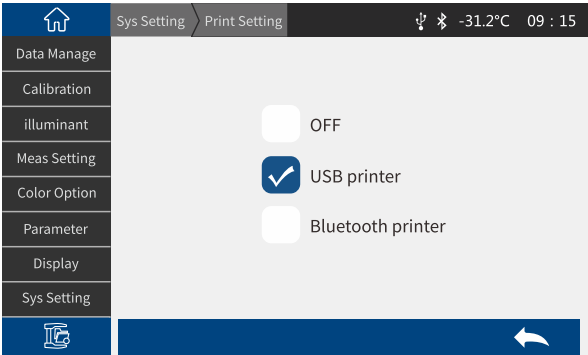

Figure 16 Printer settings
- 2,Enter "System Settings" in the main menu, click " Printer Settings " to open this function Figure 16 ;